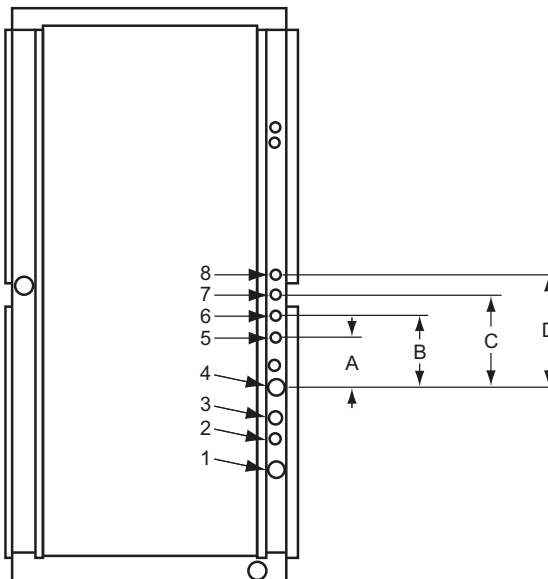

Fig. 8 — Refrigerant Piping Access Holes
The 524L direct-expansion units have internal factory-installed thermostatic expansion valves (TXVs), distributors, and nozzles for use with R-454B. See Table 7 for part numbers. Knockouts are provided in the unit corner posts for 524L refrigerant piping. See Fig. 8 and Table 8, which also lists recommended knockouts and access holes to use for each 524L unit size. Recommended fittings are listed in Table 9.
The 524L series units come with standard knockouts for refrigerant piping. These knockouts are located on both sides of the unit for installation flexibility. The standard knockouts provide sufficient access to the unit's coils for all 524L*14-30A units. 524L*16-25H units require additional holes that must be field-fabricated to accommodate the piping. See Fig. 8 for the positions and dimensions of the additional access holes required for 524L***H units. Recommended access hole use is also listed for all units. Note that Fig. 8 shows the access holes on the control-box side of the unit; this is the side of the unit with the coil headers, so it is used most often for piping access.
a. See Fig. 8 for access hole location by number.